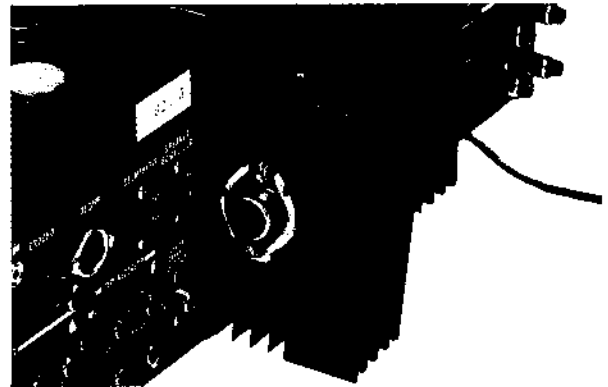

Fig. 2-16 Power transistor removal
4. Carefully draw back the heat sink, see Fig. 2-16 and then remove the two screws ($\text{#B } 3 \times 14$), ($\text{#B } 3 \times 16$) and plate nut securing the power transistor and power transistor socket to the heat sink.